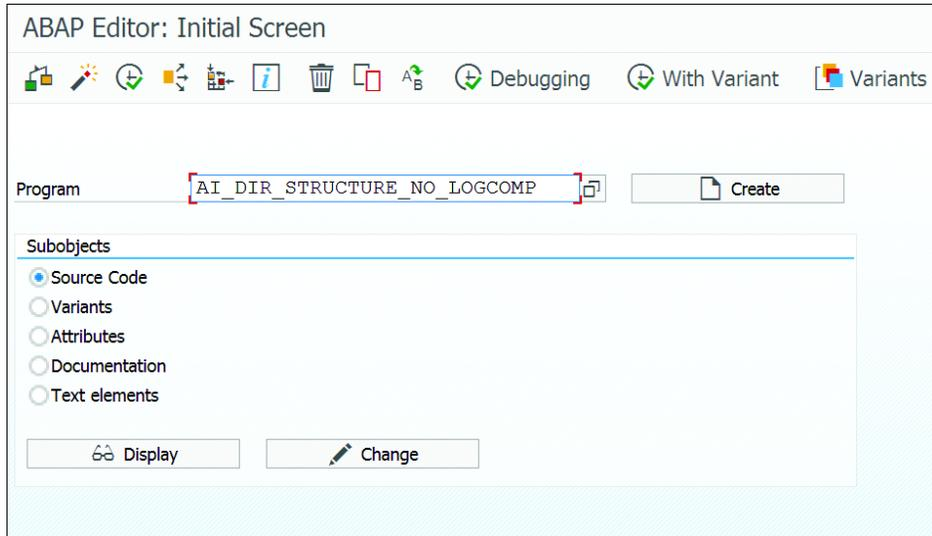

Figure 17 Executing Program `AI_DIR_STRUCTURE_NO_LOGCOMP`
1. Execute program `AI_DIR_STRUCTURE_NO_LOGCOMP` in Transaction `SE38` (see Figure 17).